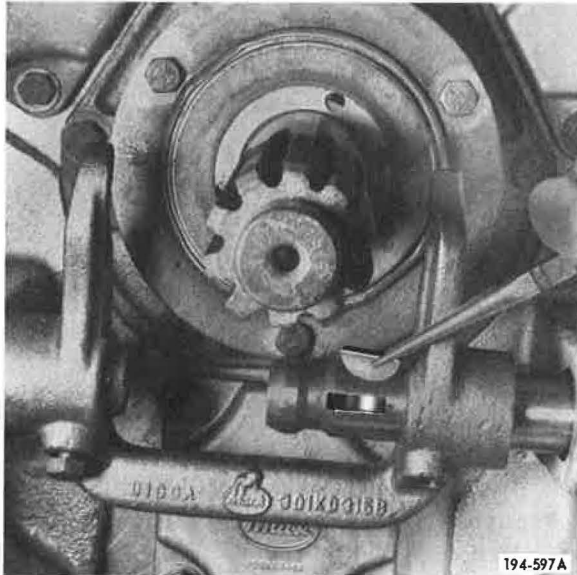

Figure 422. Installing Woodruff Key
41. Tap splined clutch release shaft into housing from outside, and install Woodruff key. See Figure 422.